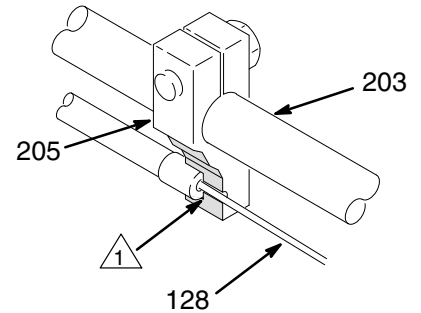

Fig. 17
- Disengage the trigger cable (128). Grasp the cable just behind the block (205). Pull the cable back about 1/2 inch (13 mm) and then up and out of the block. **The gun will trigger briefly!** See Fig. 17.
- Engage the trigger cable (128). Slide it into the block (205), making sure the end of the cable jacket seats firmly in the seat of the block. **The gun will trigger briefly!** See Fig. 17.